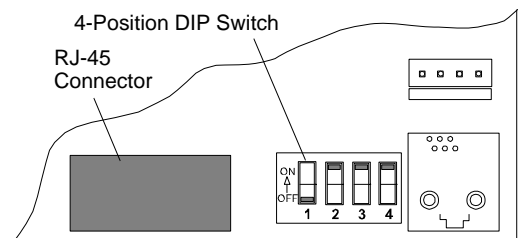

Figure 1: Interface Card (Top/Rear)
Step 1. At MIDI/SMPTE Interface Card, check address setting on 4-position DIP Switch (**Figure 1**). Make sure an address is set on the card before final installation. (A maximum of two cards may be installed.)